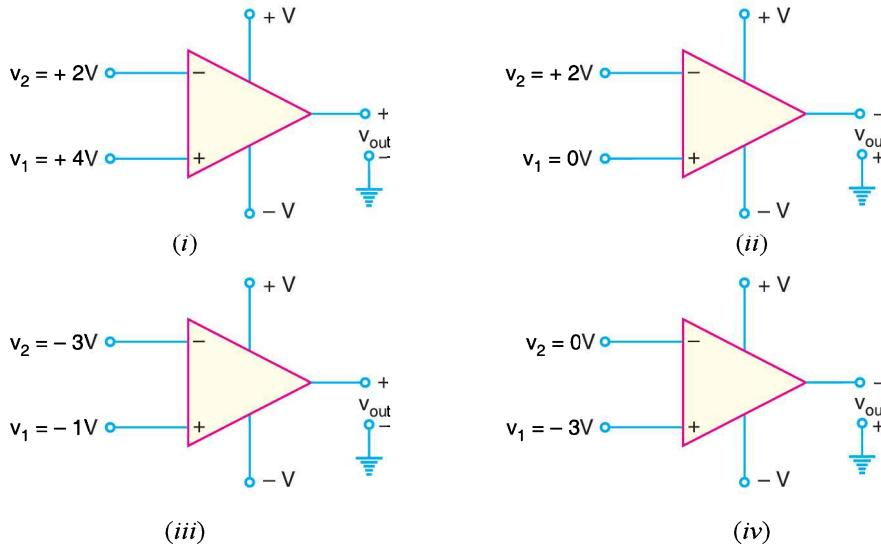

Fig. 25.41
- In Fig. 25.41(i),  $v_1 = +4V$  and  $v_2 = +2V$  so that  $v_{in} = v_1 - v_2 = (+4V) - (+2V) = 2V$ . Since  $v_{in}$  is *positive*, the OP-amp output voltage will be *positive*.
- In Fig. 25.41 (ii),  $v_1 = 0V$  and  $v_2 = +2V$  so that  $v_{in} = v_1 - v_2 = (0V) - (+2V) = -2V$ . Since  $v_{in}$  is *negative*, the OP-amp output voltage will be *negative*.
- In Fig. 25.41 (iii),  $v_1 = -1V$  and  $v_2 = -3V$  so that  $v_{in} = v_1 - v_2 = (-1V) - (-3V) = 2V$ . Clearly, the OP-amp output voltage will be *positive*.
- In Fig. 25.41 (iv),  $v_1 = -3V$  and  $v_2 = 0V$  so that  $v_{in} = v_1 - v_2 = (-3V) - (0V) = -3V$ . Therefore, the OP-amp output voltage will be *negative*.